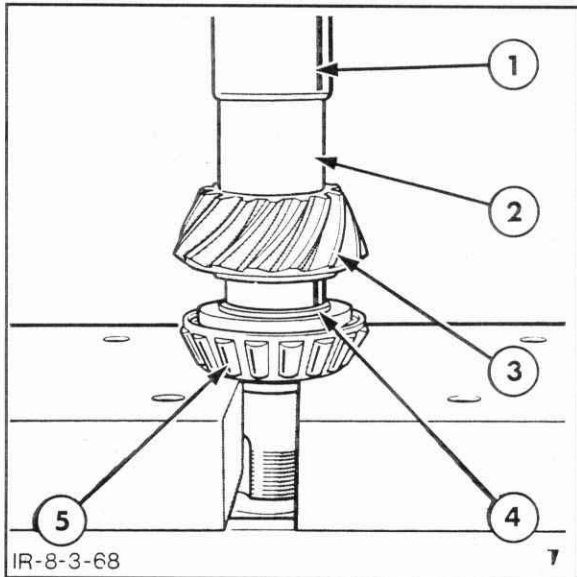

Figure 7-131
2. Press the inner bearing onto the pinion shaft, ensuring that it is fully seated, Figure 7-131.